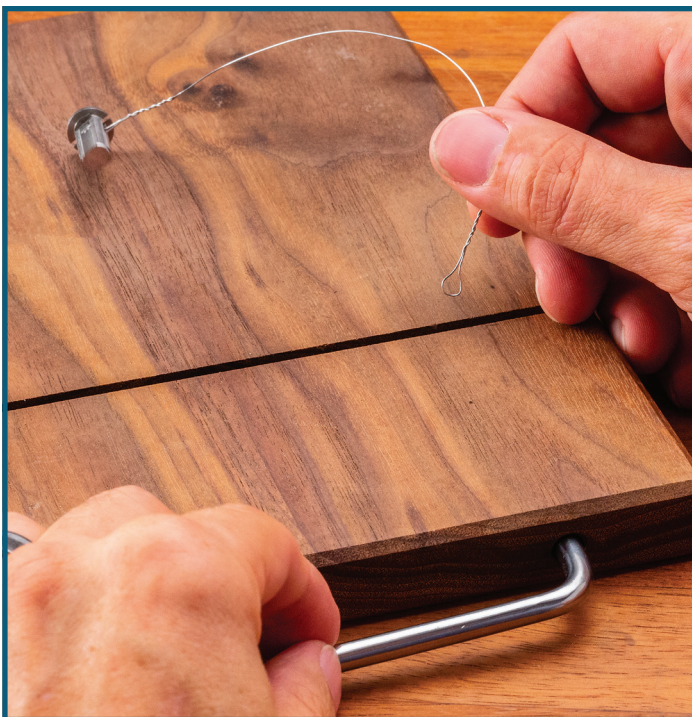

Fig. 3
3. Fit the arm of the hardware into the 1/4" diameter hole. As you slide the hardware, position the loop at the other end of the cutting wire into the slot and align it with the hole so the arm will pass through the loop. There's a groove at the end of the arm to keep the wire from slipping; position the loop in that groove. **Fig. 3.**